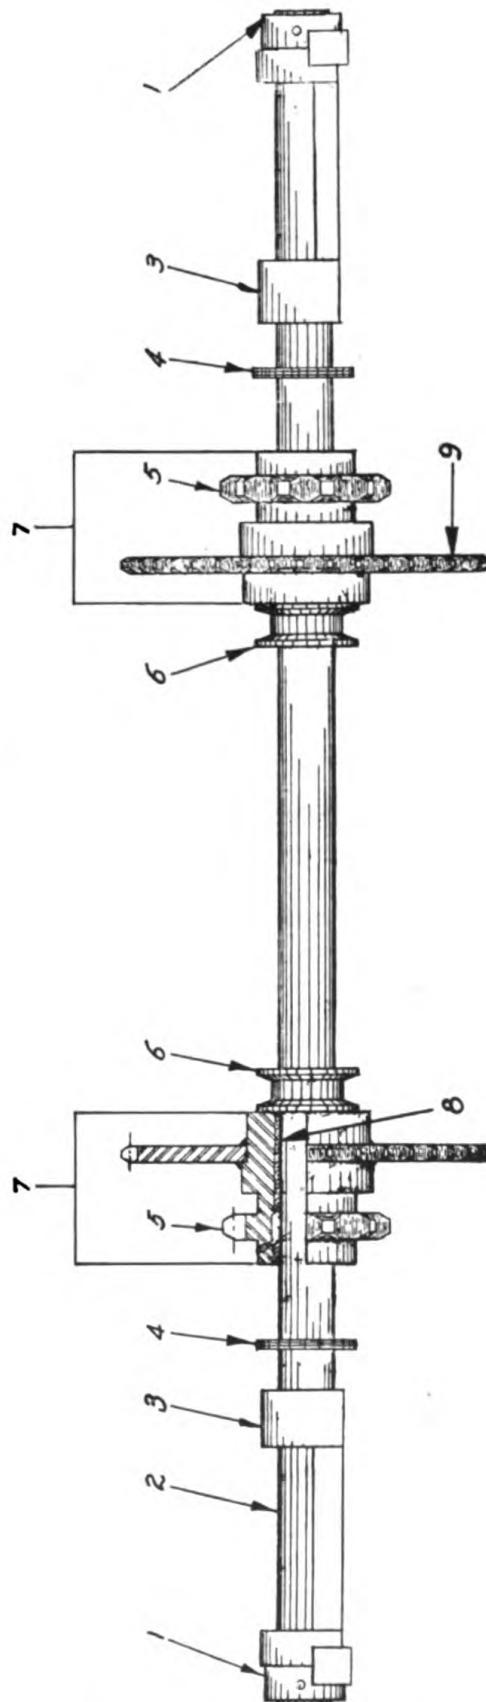

Figure 18. Oscillating shaft.
(28) Oscillating Shaft
This shaft (2) figure 18 carries the greater part of the weight of the loader and provides the pivot for crawler oscillation.
This shaft is located below the clutch shaft in bottom of chassis housing. The shaft extends beyond each side of the chassis and sets in brackets (3) figure 18 on each crawler frame.
Mounted on the shaft inside the chassis housing are two sprocket clusters (7) figure 18 which are bronze bushed. These are held in position against the chassis frame by two set collars (6).